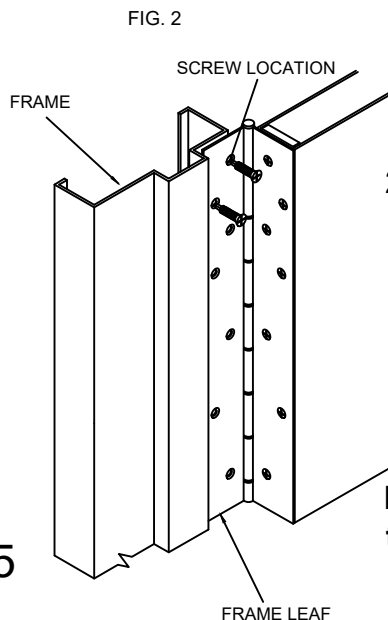

FIG. 5
2. Attach Hinge to Frame (FIG. 5):